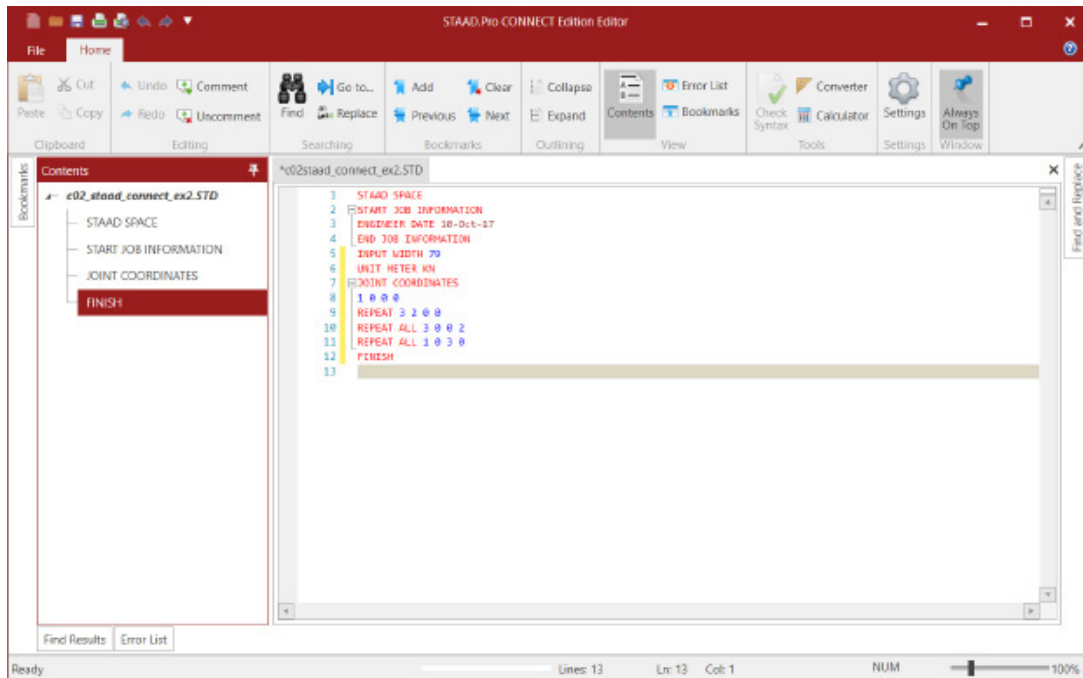

Figure 2-5 Commands in the STAAD Editor window
Step 3: In the **STAAD Editor** window, specify the commands, as shown in Figure 2-5.